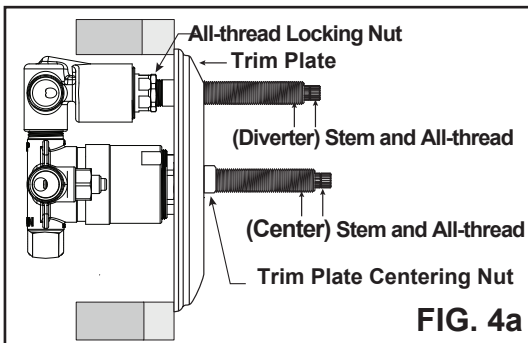

FIG. 4a
1. Install extended stem and all-thread onto cartridge stems. Fully seat stem onto cartridges by tightly securing the all-threaded tubes and locking nuts onto valves. Install plate and centering nut onto center all-thread. FIG 4a.